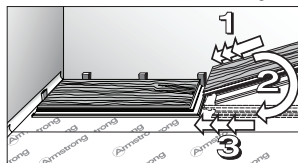

Figure 10
- Install second and subsequent full pieces in the first row by aligning short ends of boards and locking into place (Fig. 10).
- Use spacers along all sides that butt up against walls to maintain 1/4" (6.35 mm) to 1/2" (12.7 mm) expansion zone (Figs. 10 & 11).